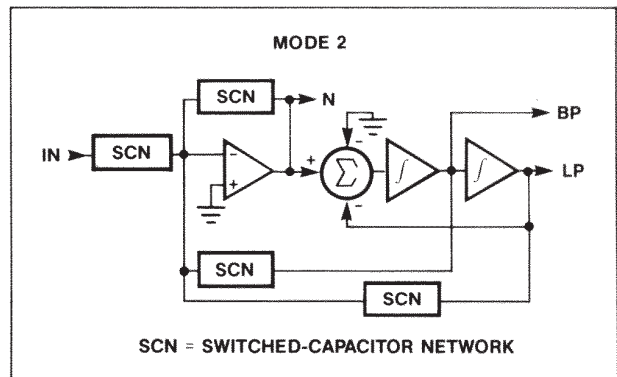

Figure 5. Filter Mode 2: Second-Order Bandpass, Lowpass and Notch
**MODE 2** (Figure 5) is used for all-pole lowpass and bandpass filters. Key advantages compared to Mode 1 are higher available  $Q$ s (see Table 3) and lower output noise. Mode 2's available  $f_{CLK}/f_0$  ratios are  $\sqrt{2}$  less than with Mode 1 (see Table 2) so a wider overall range of  $f_0$ s can be selected from a single clock when both modes are used together.